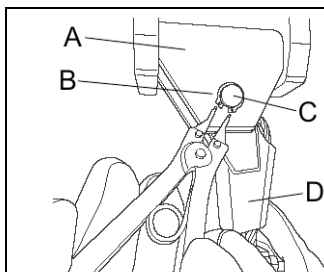

Figure 6-9
- 4) Remove the Snap Ring (B) from the Rope Anchorage Shaft (C) supporting the Terminal (D) of the Rope Anchorage Assembly (A) as shown in **Figure 6-9**.